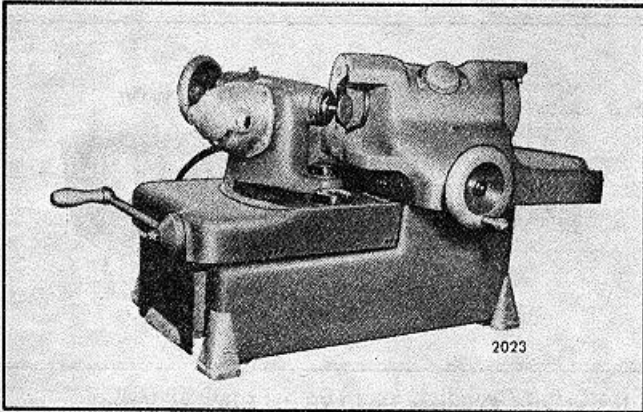
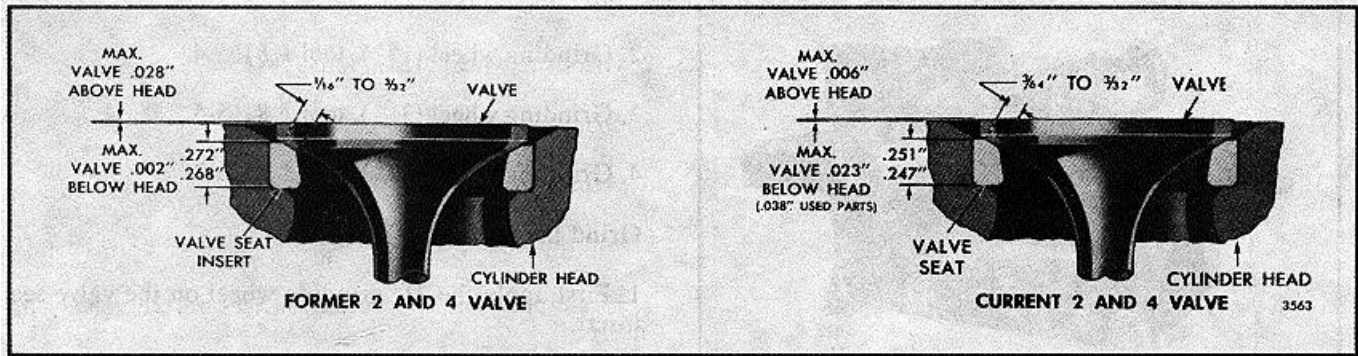

FIG. 15 Refacing Exhaust Valve
FIG. 18 - Relationship Between New Exhaust Valve, Insert and Cylinder Head (Both Exhaust Valve Seats Inserts Shown)
An exhaust valve which is to be reused may be refaced, if necessary (Fig. 15). To provide sufficient valve strength and spring tension, the edge of the valve at the valve head must not be less than .031 " in thickness and must still be within the specifications shown in Fig. 18 after refacing.
3. Grind the top surface of the insert with the 15° wheel to narrow the width of the seat to the dimensions shown in Fig. 18. The 31° face of the insert may be adjusted relative to the center of the valve face with the 15° and 60° grinding wheels.
The maximum amount the exhaust valve should protrude beyond the cylinder head (when the valve is closed) and still maintain the proper piston-to-valve clearance is shown in Fig. 18. Grinding will reduce the thickness of the valve seat insert and cause the valve to recede into the cylinder head. If, after several grinding operations, the valve recedes beyond the specified limits, replace the valve seat insert.
10. Check the position of the exhaust valves (Fig. 18).